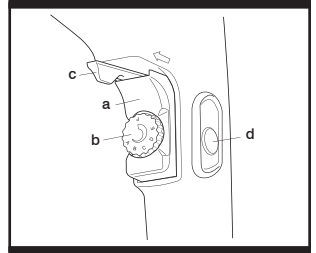

Fig. 6
Variable speed switch (Fig. 6)
4. SWITCHING ON AND OFF (Fig. 6)